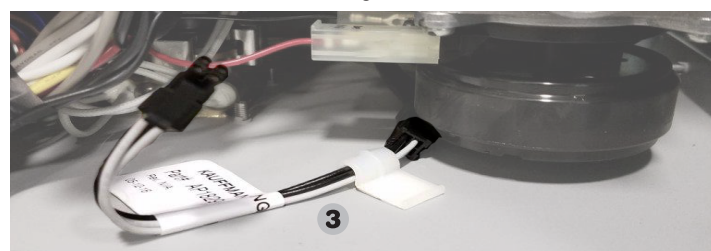

Figure 4.
- Suggested Sensor Location: Route the water sensor rope from the right side of the water heater to the back of the unit passing through the back of the control board. As shown in Figure 4.